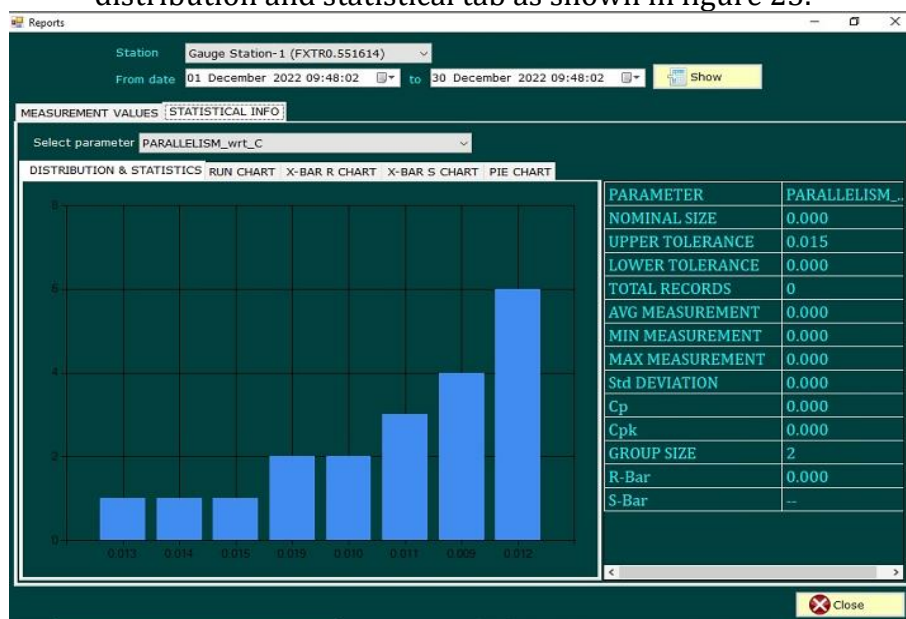

Figure 23
- Click Statistical Info tab, After Clicking tab the following tab can be seen in figure 23.
- **Distribution and statistics Tab:** A bar chart will appear in the distribution and statistical tab as shown in figure 23.